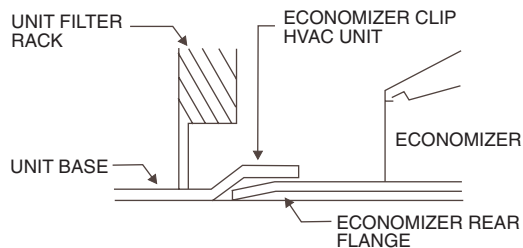

Fig. 28 — Rear EconoMiSer Flange Installation
6. Install the EconoMi\$er assembly into the rooftop unit. See Fig. 28 and 29.
NOTE: Be sure to engage rear EconoMi\$er flange under tabs in return-air opening of the unit base. See Fig. 28.